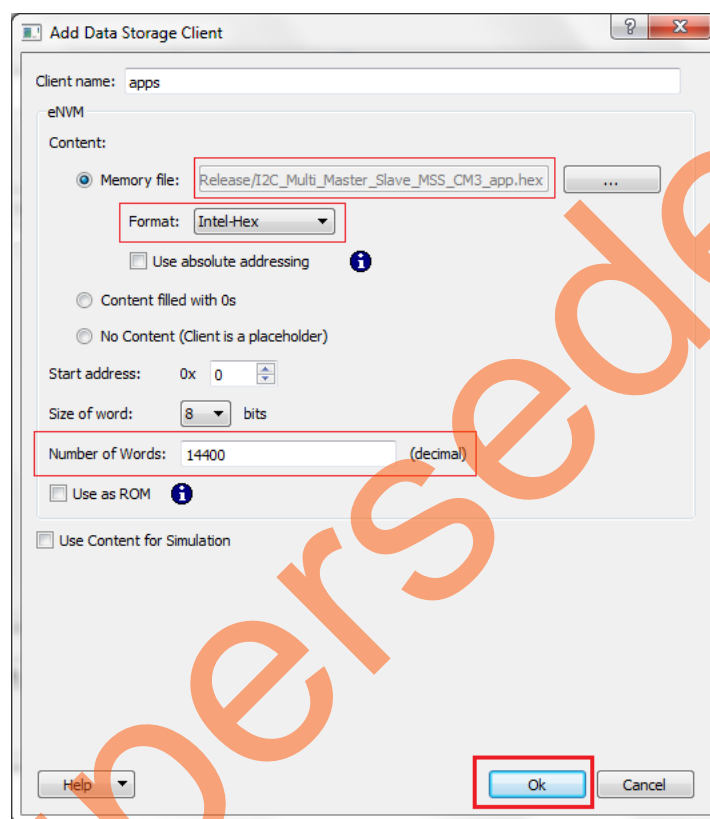

Figure 30 • Add Data Storage Client Window
7. Click **OK** in the **Add Data Storage Client** window (refer Figure 30).